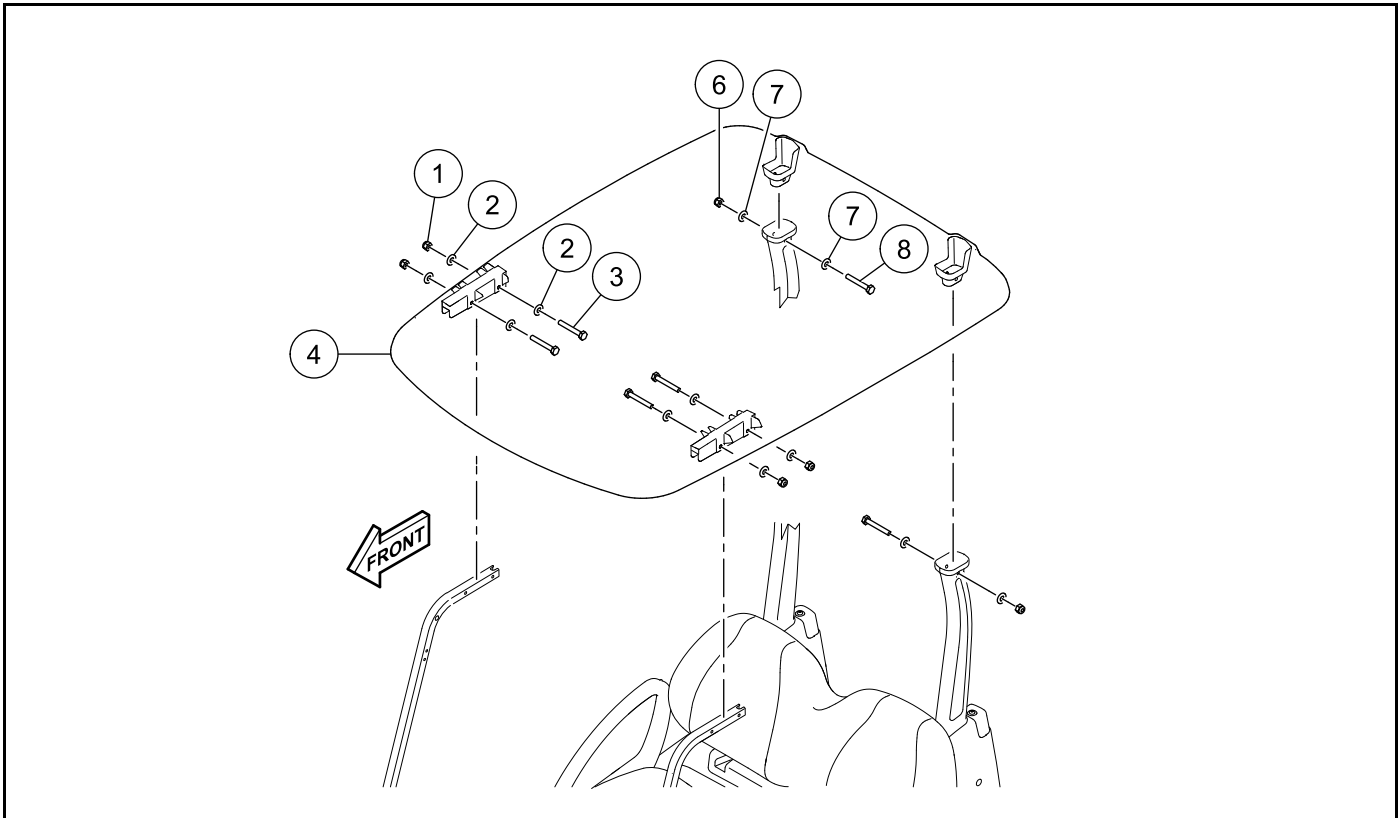

Figure 4-17 Two-Passenger Canopy Installation
1. Put the canopy (4) on top of the front and rear canopy supports (**Figure 4-17**). Make sure that the front supports are correctly positioned between the molded tabs on the underside of the canopy. Make sure that the molded protrusions at the rear of the canopy extend into the top of the rear supports.
2. Install the bolts (3), washers (2), and nuts (1). Tighten the hardware to 50 lb·in (5.6 N·m).
3. Install the bolts (8), washers (7), and nuts (6). Tighten the hardware to 50 lb·in (5.6 N·m).